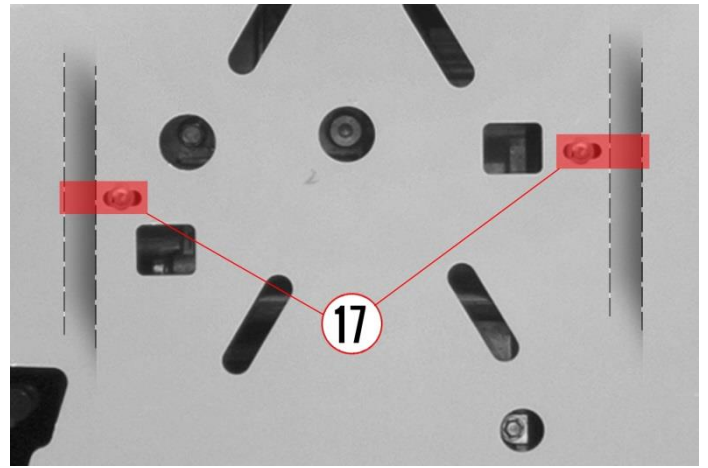

Fig. 5
1. Rear Skid Plate [1] installation. Place rear skid plate on appropriate holes and screw bolts (12) and (13) with washers 6x20. Before tightening the screws adjust correct position of the Rear Skid Plate, then tighten all screws completely.
2. Center Skid Plate [2] installation. Begin by placing washers 6x18 on screws (16). Thread these screws from above through outermost footwell mounts so that the washers are on top of the floorboards. Install the two clamps (17) - screw them 2-3 threads into the Center Skid Plate [2] (these clamps will hold Center Skid Plate to the ATV frame tube). Install Center Skid Plate [2] on screws protruding from footwells. Put washers 6x22 on these protruding screws, install supplied M6 nuts and tighten them fingertight. Screw bolts (10) and tighten them fingertight. Attach clamps (17) through the square openings in the Center Skid Plate [2] to the frame tubes (Fig. 5). Tighten the screws a bit more so that clamps won't fall out. Adjust correct position of the Center Skid Plate and tighten up all fasteners completely.
5. If you wish to install rear A-arm guards [6] a [7], first install clamps (19), see Fig. 3. Do not tighten the screws so that the clamps can be positioned on the A-arm tubing (Fig. 5). Install guard on appropriate holes, install and tighten clamps (19) fingertight so that clamps won't fall out. Install screws (15) with washers 6x20 and tighten them fingertight, adjust guard's correct position and while tightening screws constantly check whether guards are still perpendicularly to A-arms. Make sure that there is enough space between Front Skid Plate [3] and installed A-arm guard to avoid contact between both covers when suspension is fully compressed. Check that there is no contact between guard and wheel.